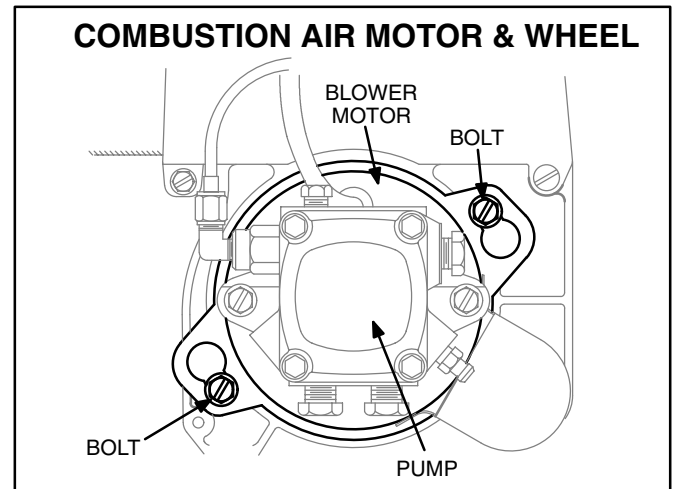

FIGURE 34
- 3- Loosen two bolts securing motor to blower housing. Key hole slots are provided for easy removal. See figure 34.